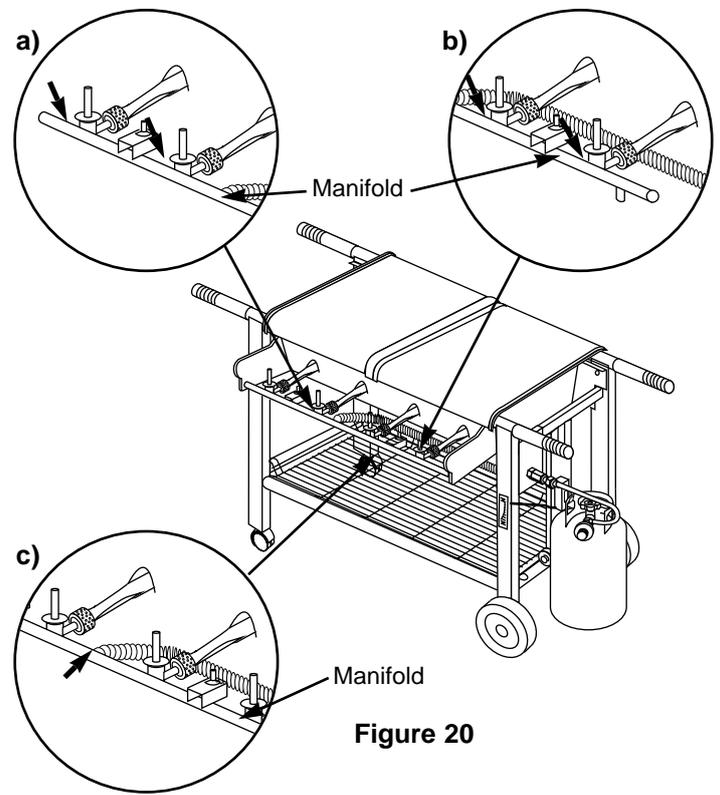

Figure 20
- a) Left valves to manifold connection. Figure 20 (a).
- b) Right valves to manifold connection. Figure 20 (b).
- c) Corrugated gas line to manifold connection. Figure 20 (c).